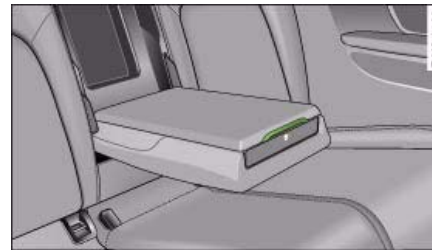

Fig. 235 Rear centre armrest: First-aid kit
- Pull up the catch to open the storage compartment ⇒ fig. 235.